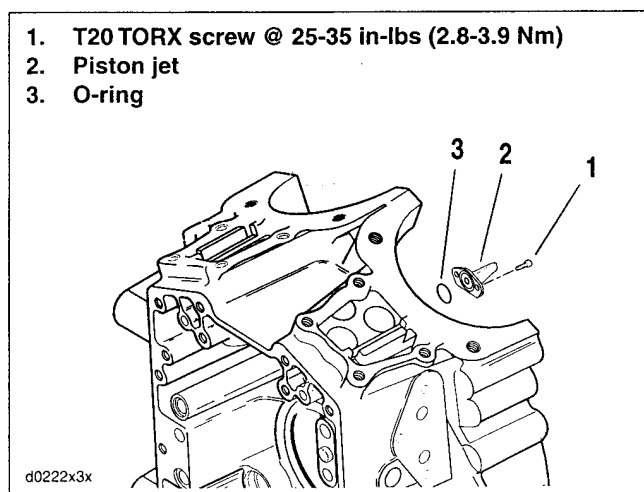

Figure 3-156. Piston Jets
1. See Figure 3-156. Remove two T20 TORX screws (1) to free piston jet (2) from crankcase.
2. Remove O-ring (3) from groove in mounting flange of jet. Discard O-ring.
1. See Figure 3-156. Apply a very thin film of clean H-D 20W50 engine oil to **new** O-ring (3) for piston jet. Install **new** O-ring in groove of jet mounting flange.
2. With jet pointed upward, start two T20 TORX screws (1) to secure piston jet (2) to crankcase. Tighten to 25-35 in-lbs (2.8-3.9 Nm).